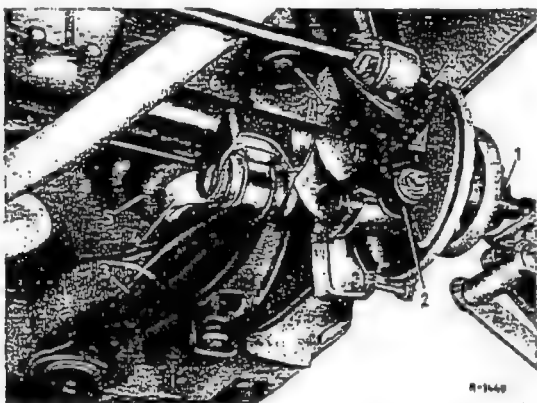

Fig. 32-12/5
2. Lift both axle tubes in order to get them into an approximately horizontal position (Fig. 32-12/5).